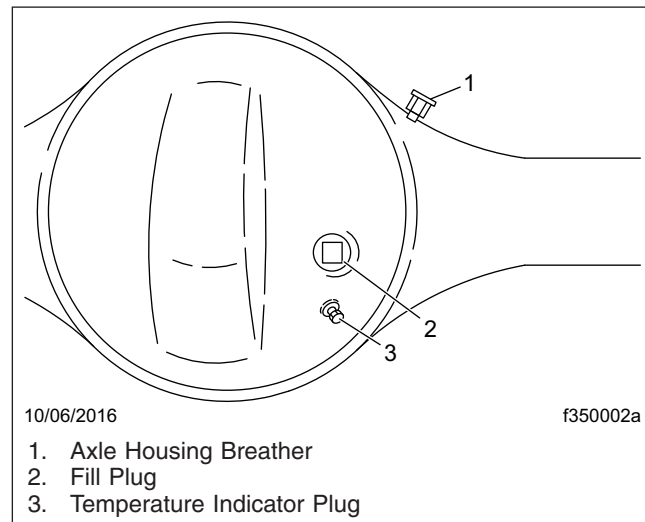

Fig. 8, Dana Spicer Axle Housing Breather
3. Clean the oil fill plug and the area surrounding it. See Fig. 8. Remove the plug from the fill hole (or standpipe, if installed in the oil fill hole).
6. Check the axle housing breather. Make sure that it is unclogged and free from corrosion. See **Fig. 8**. If the breather is plugged or damaged, clean or replace it as needed.